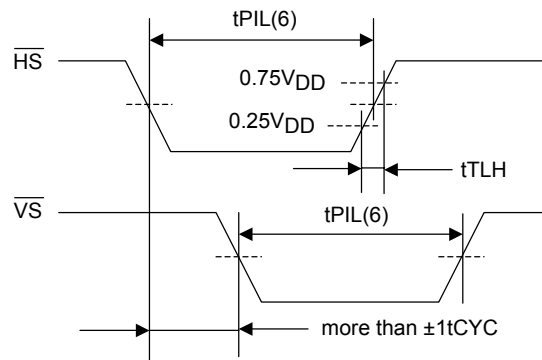

Figure 6 Pulse Input Timing Condition - 2
| | tPIH(6) tPIL(6) | HS, VS | •Display position controllable •The active edge of HS and VS must be apart at least 1tCYC. •Refer to figure 6. | 4.5 to 5.5 | 8 | | | |
| Rising/falling time | tTHL tTLH | HS | Refer to figure 6. | 4.5 to 5.5 | | | 500 | ns |